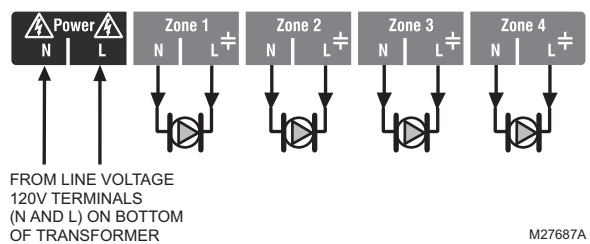

Fig. 10. Wiring an AQ15540B Zoning Module for use with line voltage circulators.
Refer to Fig. 10. Remove the plastic wiring barrier that is located in the bottom wiring channel between the AQ15100B Control Module and the Zoning Module. Run jumper wires from the N and L terminals on the bottom of the AQ251 Control Panel’s transformer, through the wiring channel across the bottom of the Control Panel, and to the corresponding N and L terminals of the Zoning Module.
*If low voltage zone valves are used with the AQ25142B Control Panel, the supplied Low Voltage Output sticker (shown in Fig. 11) **must** be applied over the line voltage output sticker (see Fig. 10) that is already attached to the Zoning Module.*